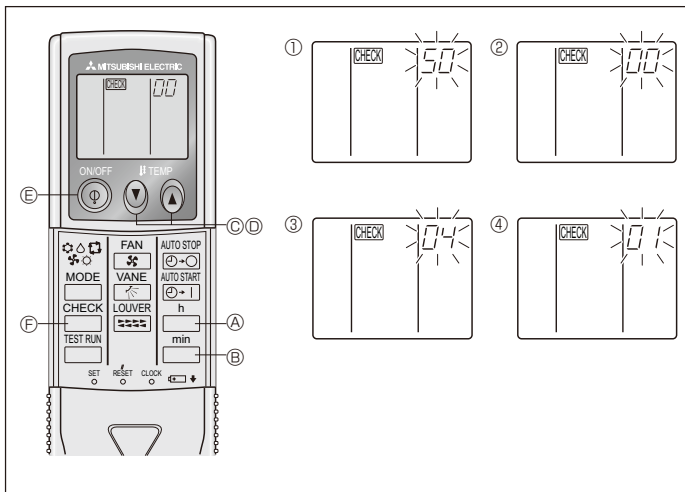

Fig. 6-10
- ⑧ Press the MODE button and mode and the setting number (I) and (II) will change to being on constantly and the contents of the setting can be confirmed.
- ⑨ Press the FILTER and TEST RUN buttons simultaneously for at least 2 seconds. The function selection screen will disappear momentarily and the air conditioner OFF display will appear.
2) For wireless remote controller (Fig. 6-10)